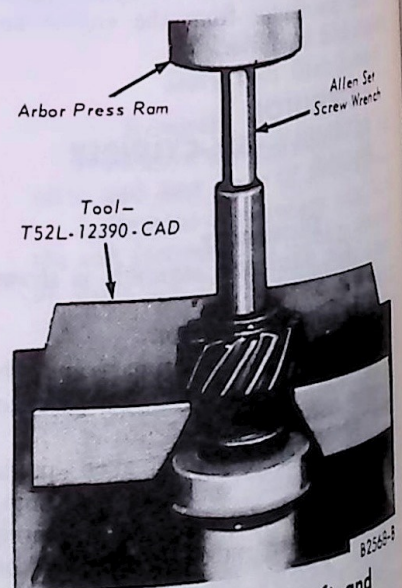

FIG. 7 Removing Shaft and Gear
15. Invert the distributor and place it on a support plate in a position that will allow the distributor shaft to clear the support plate and press the shaft out of the gear and the distributor housing (Fig. 7).